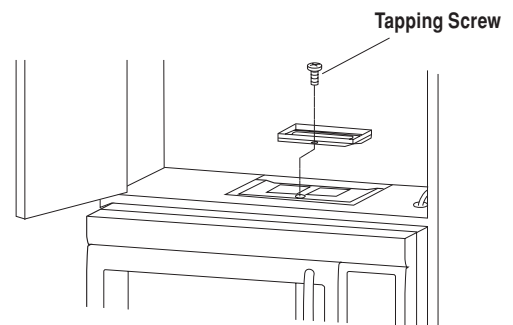

Figure 17
6. Attach the Exhaust Damper Assembly to the fan cover bracket on the top of the outcase cabinet after mounting the oven. To attach the Exhaust Damper Assembly, refer to MOUNTING OVEN TO THE WALL, page 6 Figure 17.